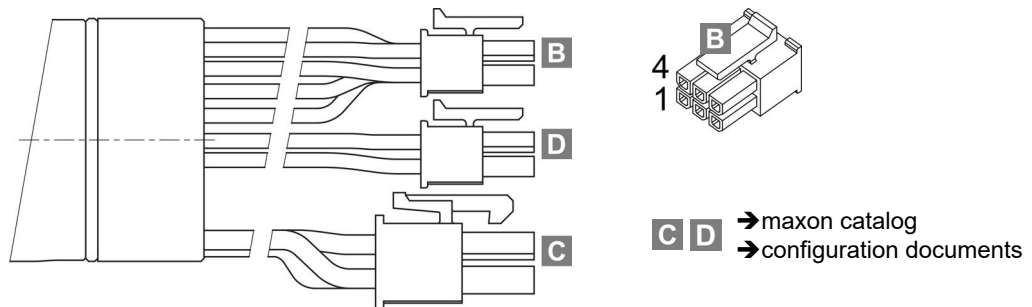

Figure 19 ENX 16 | 22 COMM (thermistor version) – Cable Plugs
- Hall sensors with plug / Motor with plug / NTC with plug (→Figure 19)